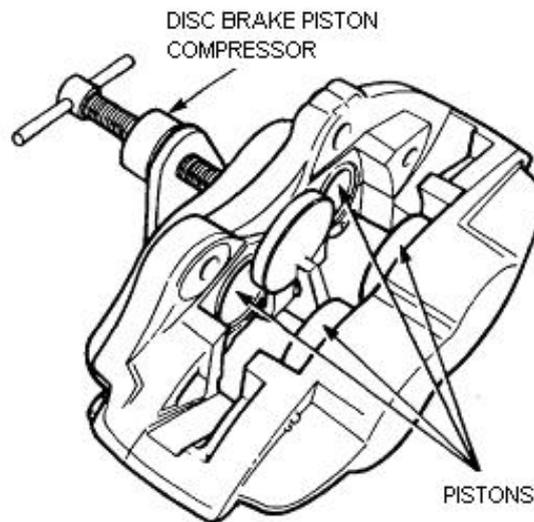

Figure 128 Securing the Pistons
- b. Install the disc brake piston compressor (Table 3, Serial 12) to retain both the pistons in the mounting flange half of the caliper (Figure 128).